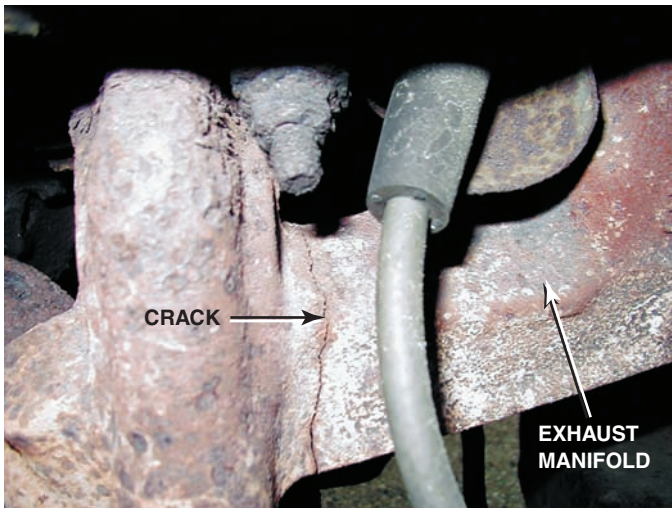

FIGURE 22-7 A cracked exhaust manifold on a Ford V-8.
7. Exhaust leak ● **SEE FIGURE 22-7**